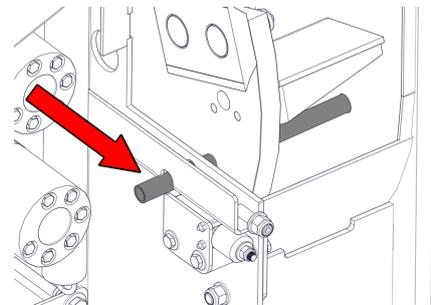

Figure 25 - Locking Bar Inserted
5. Insert locking bar through rotor housing and rotor (Figure 25).